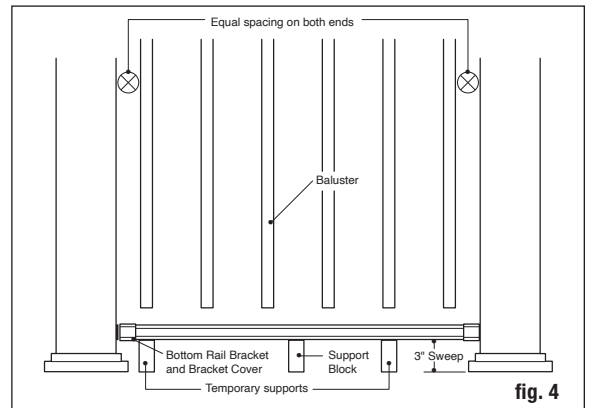
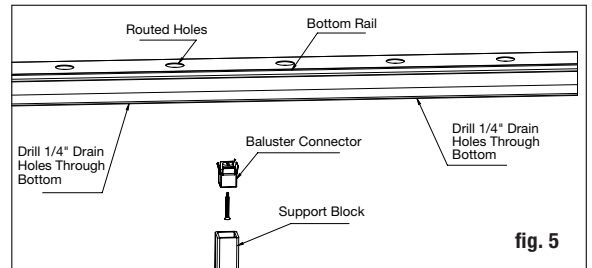

fig. 4
fig. 5
Step 6 Measure the distance between installed post sleeves to determine the length of the top and bottom rails. Place the bottom rail in position next to the posts using 3" temporary supports and adjust so the distance between the first baluster hole and post is greater than 2" and equal on both ends (refer to fig. 4). Mark the rail. Cut the bottom rail. Cut the top rail to the same spacing and length.
Step 7 For the 6' rail find the center of the underside of the bottom rail and attach the baluster connector included with the support block using the screw provided. (For the 8' rail divide the length of the rail in three to get the location of the support blocks. Then attach the baluster connectors included with the support blocks using the screws provided.) Check building code requirements for the maximum spacing between deck surface and bottom of rail (sweep). This rail is designed for a 3" sweep see (fig. 4). If necessary, trim the support block to the determined height (fig.5). **Drill two 1/4" drain holes through the bottom of the rail to prevent trapping water. Center drain holes between two baluster locations as baluster can block the pathway and stop water from properly draining.**